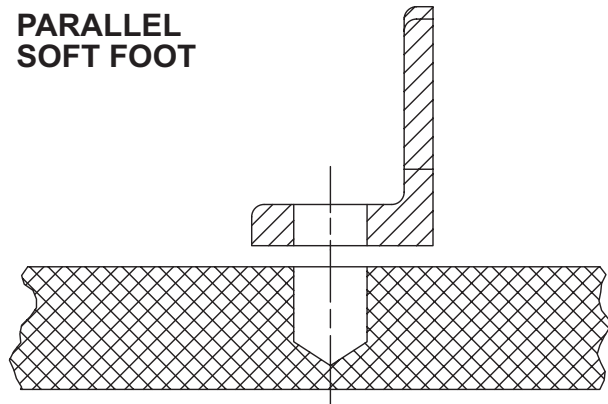

Figure 5-2 – Illustrations of Soft Foot
2. Check each foot for gaps between the foot and base (soft foot). Shim as necessary to fill the gap within 0.002 in. (0.05 mm). **Figure 5-2** shows the two most common types of soft foot conditions. If either type is present at a measurement of more than 0.003 in. (0.076 mm), the unit may fail prematurely.